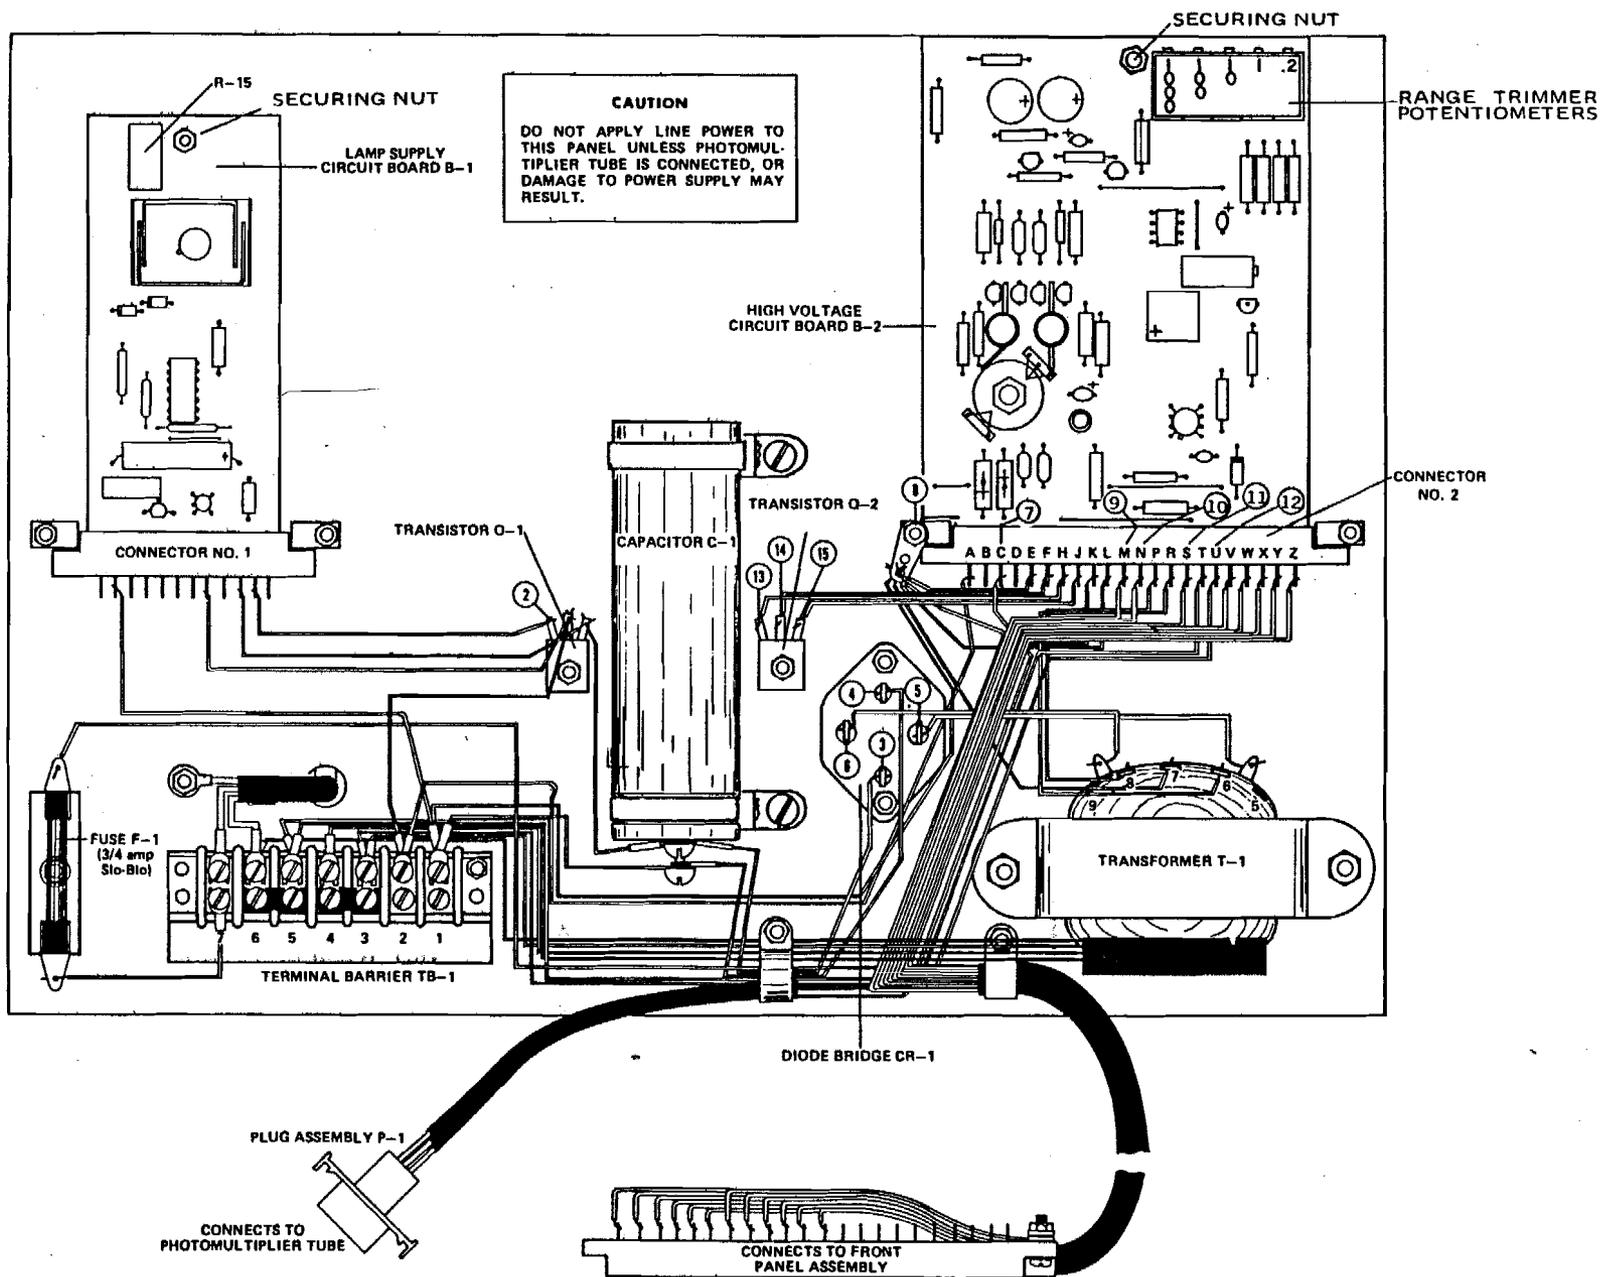

FIGURE 4
1. The instrument is normally wired for 115 V, 50/60 Hz operation. If desired, it can be ordered for 220 V, 50/60 Hz. The operating voltage can be changed manually in the field by changing the jumper arrangement on TB-1. See Figure 4. Refer to the note on the instrument schematic for the appropriate jumpering. After it has been determined that the instrument is connected for the proper voltage, it should be plugged into a grounded outlet.
3. Locate and remove the pair of lamp assembly lead wires attached to terminals 1 and 2 on TB-1. See Figure 4.
The calibration of each sensing range is set by five trimmer potentiometers located on circuit board assembly B-2 (at the top of the back panel assembly). See Figures 4 and 6. These are factory adjusted for accurate readings on all ranges and should not normally require readjustment. In case the photomultiplier tube or high voltage circuit board is replaced, range adjustment may be required. From time to time, it is advisable to check
5. If the correct voltage is not read, adjust potentiometer R-15 on circuit board B-1 until voltage is correct. *See Figure 4.*